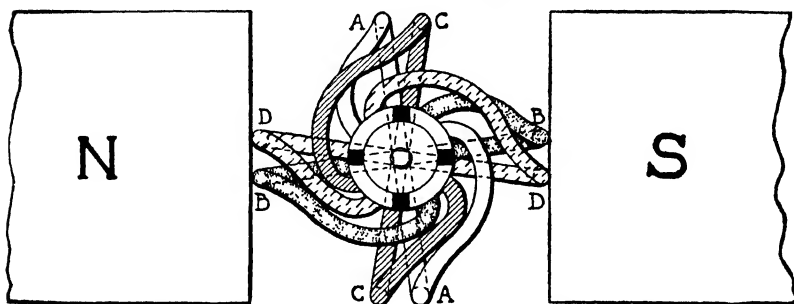
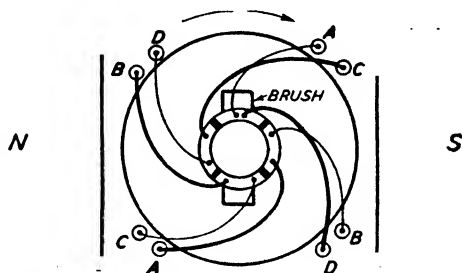
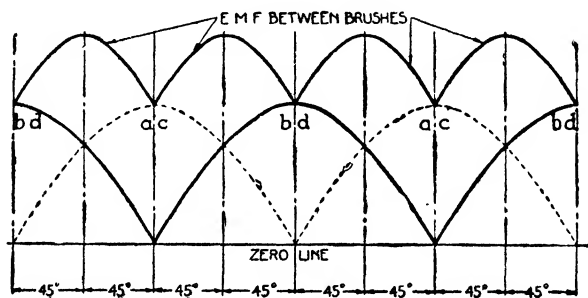

Fig. 19. Direct-Current Generator Composed of Four Loops of Wire and a Commutator of Four Segments
Fig. 20. Position of Conductors and Brushes after the Armature in Fig. 19 Has Rotated One Eighth of a Revolution
Fig. 21. Curve Representing Variation in Value of Electromotive Force between Brushes of Direct-Current Generator Shown in Fig. 19
**OPERATION OF FOUR-PART COMMUTATOR AND FOUR LOOPS OF WIRE.** An armature may be formed by interconnecting four loops of wire and four commutator segments. The connections are shown in Fig. 19. Each loop has its terminals connected to adjacent commutator segments. The brushes must be broad enough to bridge the insulation between adjacent segments, and they are mounted on the commutator in such a position that they short-circuit the loops when the sides of the loops are moving parallel to the magnetic field.
An inspection of Fig. 19 will assist you in understanding the following statements. When the armature is in the position shown in Fig. 19, the e.m.f. induced in the loops *A* and *C* is zero, and the e.m.f. induced in the loops *B* and *D* is a maximum. Of course, loops *A* and *C* are short-circuited by the brushes, but no damage results as there is no e.m.f. induced in these loops in this position. Loops *B* and *D* are connected in parallel between the brushes, and the e.m.f. between the brushes is that induced in either loop *B* or *D*, which is supposedly the same. Now, as the armature rotates from the position shown in Fig. 19, the e.m.f. in loops *B* and *D* decreases in value and the e.m.f. in the loops *A* and *C* increases in value, starting with zero. A small angular rotation of the armature results in the short-circuit of the loops *A* and *C* being removed, and the loop *A* is connected in series with the loop *B* and likewise the loop *D* is connected in series with the loop *C*, Fig. 20. This connection
remains while the armature rotates for one-fourth revolution from that in Fig. 19, when the loops *B* and *D* are short-circuited by the brushes and the loops *A* and *C* are in parallel between the brushes. During this one-fourth revolution the e.m.f. induced in loops *B* and *D* decreased in value from a maximum to zero value, as shown by the curve *bd* in Fig. 21, and the e.m.f. induced in the two loops *A* and *C* has increased in value from zero to a maximum value, as shown by the curve *ac* in Fig. 21. The e.m.f. between the brushes is the sum of the e.m.f.'s and it is represented by the heavy curve in Fig. 21. The maximum value of this e.m.f. occurs when the loops are making an angle of 45 degrees with the position shown in
Fig. 19, or they have turned one-eighth turn from the starting point, to the position in Fig. 20. The e.m.f. in all the loops is the same for this position of the armature and is equal to 0.707 of the maximum e.m.f. The total e.m.f. between the brushes is equal to twice this value, since two loops are in series, or it is equal to 1.414 times the maximum e.m.f. that can occur in any one of the loops. The e.m.f. between the brushes will fluctuate between the maximum value occurring in a single loop and 1.414 times this maximum value. With a four-loop armature there will be four of these pulsations for each revolution, as shown in Fig. 21. As the number of loops and segments is increased the amount of this fluctuation is decreased (the height of the rise and fall of voltage wave, Fig. 21) but the number of fluctuations per revolution is increased.
A closed-circuit winding is one in which the loops forming the winding are interconnected and form one or more closed circuits upon themselves, and each loop is always in circuit except when it is short-circuited by the brushes. The winding shown in Figs. 19, 20 and 22 is of the closed-circuit type.